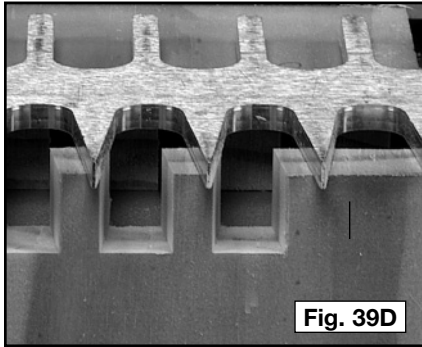

Fig. 39D
Step 4 - Remove the spacer and slide the pin board to the left (Fig. 39D).